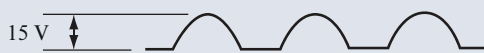

FIGURE 11.12
- B. See Figure 11.12. This type of circuit (called a *half-wave rectifier*) produces an output waveform containing either the positive or negative portion of the input waveform.